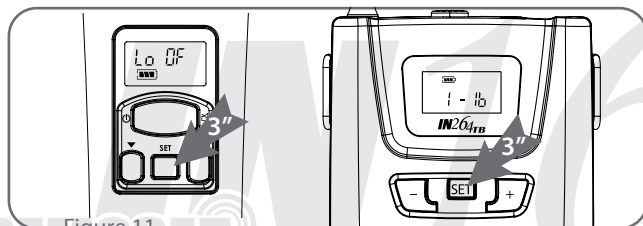

Figure 11
- (1) Press “Set” button ②① ②⑨ for 3 seconds to enter setting window. (Figure 11)
- (2) Press “Set” again until the Lock setting window shows.